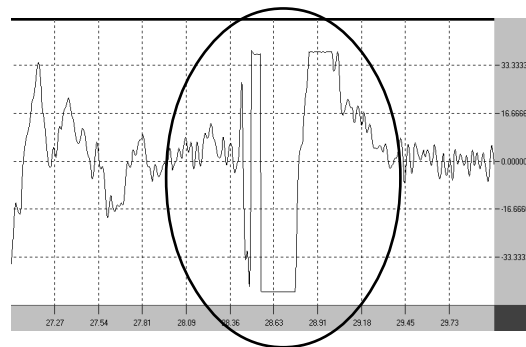

Figure 3.1 - Amplifier Saturation
3. Watch the maximum amplitude of the input signal. If the amplitude exceeds 120 microvolts (uV) peak-to-peak, the amplifiers will saturate and the resultant data is clipped and invalid as shown in Figure 3.1.